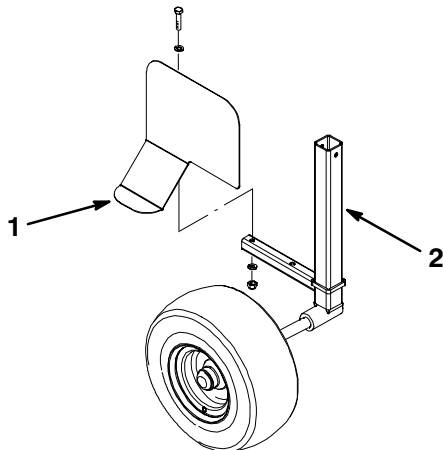

Figure 1
1. Install the left contour guard onto the left wheel assembly (Fig. 1), using 2 bolts (M10 x 50 mm), 2 locknuts (M10), and 4 washers (M10).